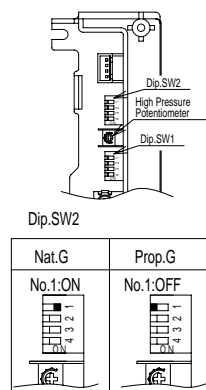

fig. 1
4. Check gas type switches (fig. 1) are in the correct position (dip switch 1 of SW2 'ON' = NG, 'OFF' = LPG).